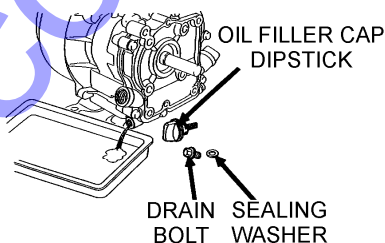

Figure 19. Engine Oil (Draining)
1. Drain the engine oil when the oil is **warm** as shown in Figure 19.